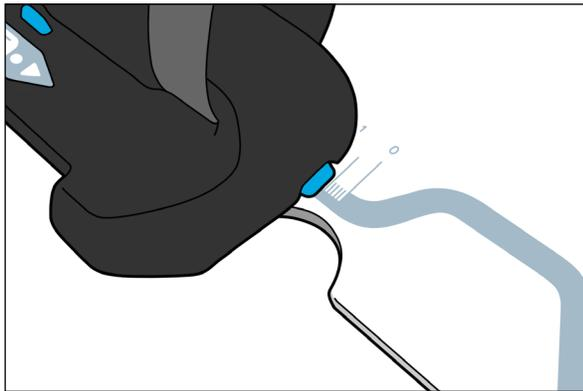

Fig. 12
9. Record clamp and belt scale positions (Fig. 12 & 13).